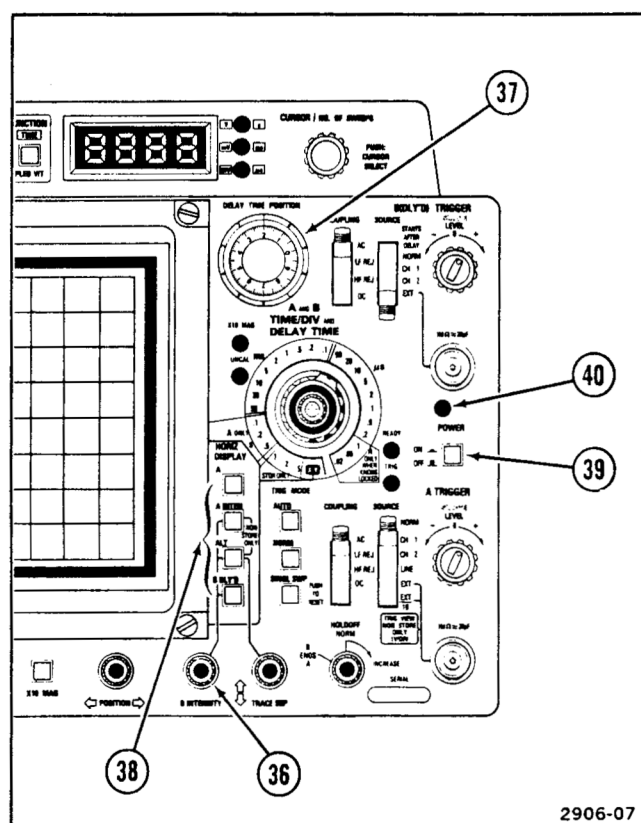

Figure 2-7. Horizontal display, B INTENSITY, DELAY TIME POSITION, and power controls and indicator.
Refer to Figure 2-7 for location of items 36 through 40.